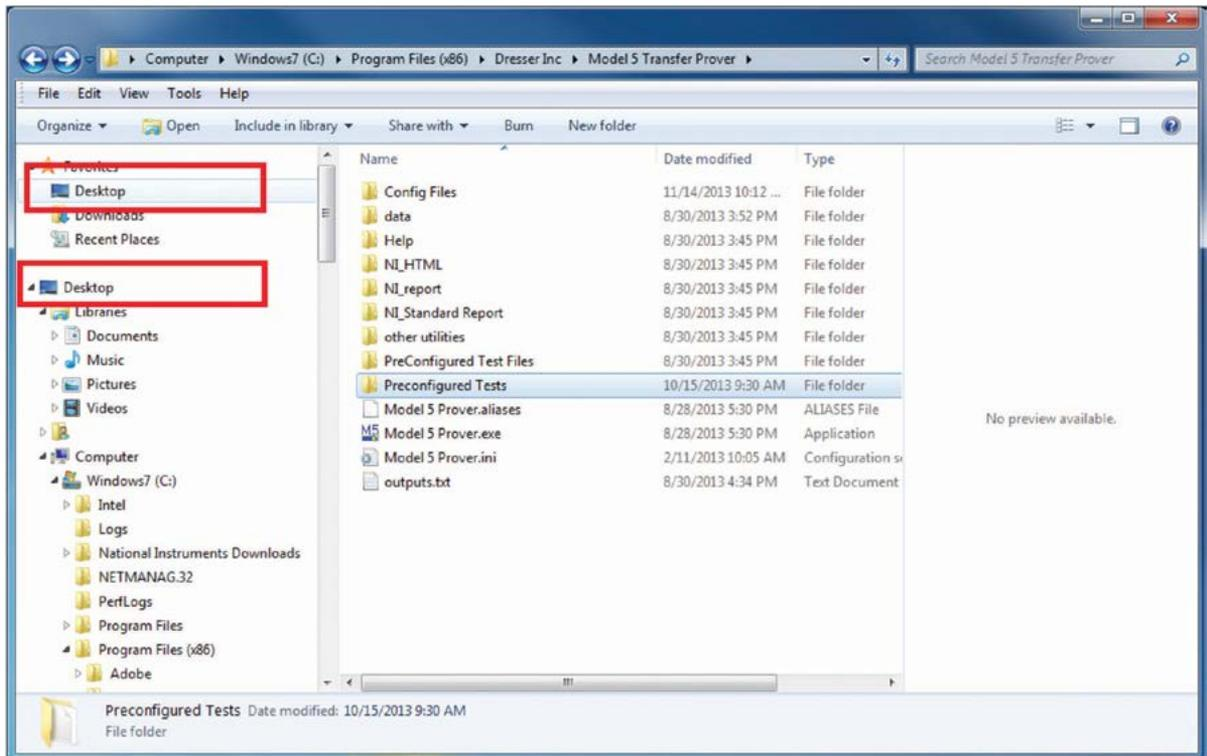

Figure 18: Select “Desktop”
18. Within the same window on the left-hand side, scroll up to reveal “Desktop” as shown in **Figure 18**. Select or click “Desktop”.